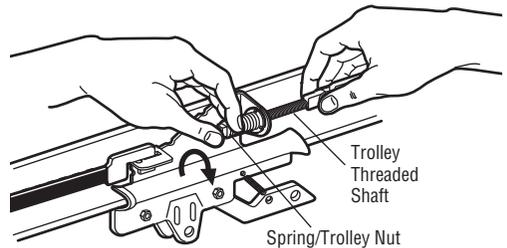

Figure 1
1. By hand, thread the spring trolley nut on the threaded shaft until it is finger tight against the trolley (Figure 1). Do not use any tools.